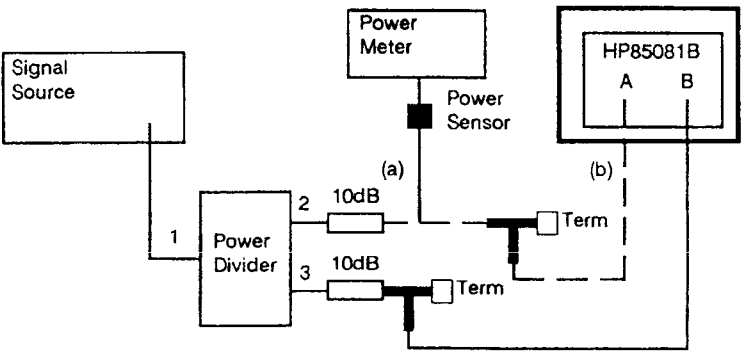

Figure 4-4. Voltage Accuracy Equipment Setup
1. Configure the equipment as shown in Figure 4-4 step (a), with the power sensor connected to the 10dB attenuator which is connected to port 2 of the power splitter; and Channel B of the HP 85081B connected via the 50ohm Tee to the 10dB attenuator which is connected to port 3 of the power splitter.
4. Reconfigure the equipment as shown in Figure 4-4 step (b), with Channel A of the HP 85081B connected (via the 50ohm Tee) to the output of the 10dB attenuator, which is connected to port 2 of the power splitter.